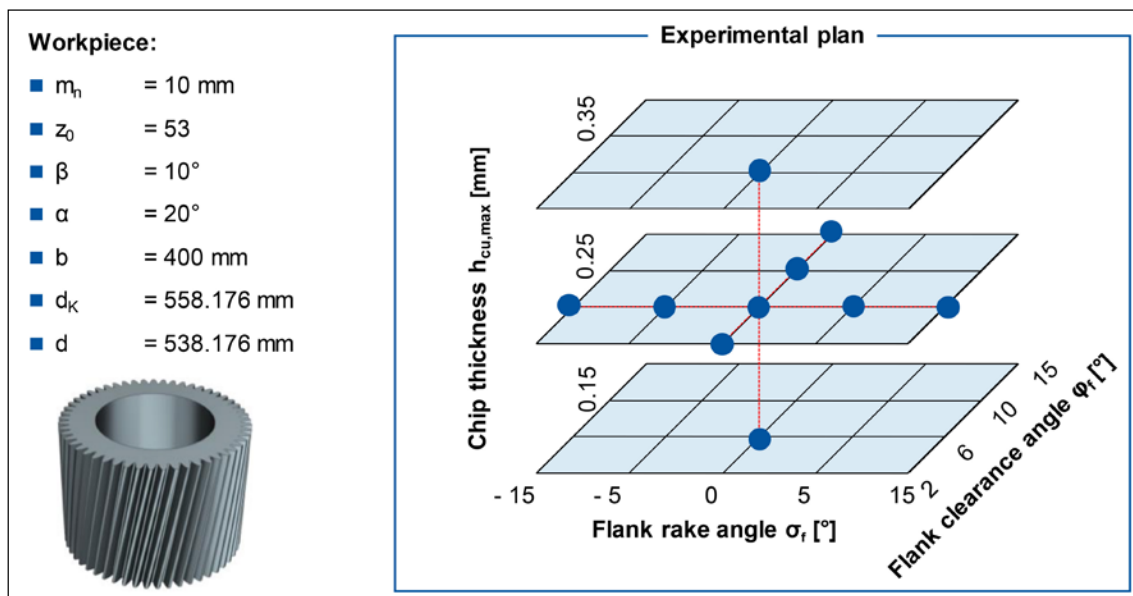

Figure 12 Workpiece and design of experiments.
**Design of experiments.** In order to investigate the influence of the working angles on the tool wear during hobbing, the simulation plan is shown (Fig. 12). The adjustment of the tool angles is performed through the relative velocity, shown in Equation 4 and the designed tool angles; the latter can be held in the tool. In order to cover a wide range of parameters it is necessary to vary the designed tool angles. At the starting point of the experimental plan the flank rake angle is  $\sigma_f=0^\circ$ , the clearance angle of  $\varphi_f=6^\circ$  and a maximal chip thickness of  $h_{cu,max}=0.25$  mm. The values established in the experimental plan correspond to the current state of the art. From the base point the designed flank clearance angle  $\varphi_f$  is varied to  $2^\circ$ ,  $10^\circ$  and  $15^\circ$ . The designed flank rake angle is varied in the range of  $-15^\circ$ ,  $-5^\circ$ ,